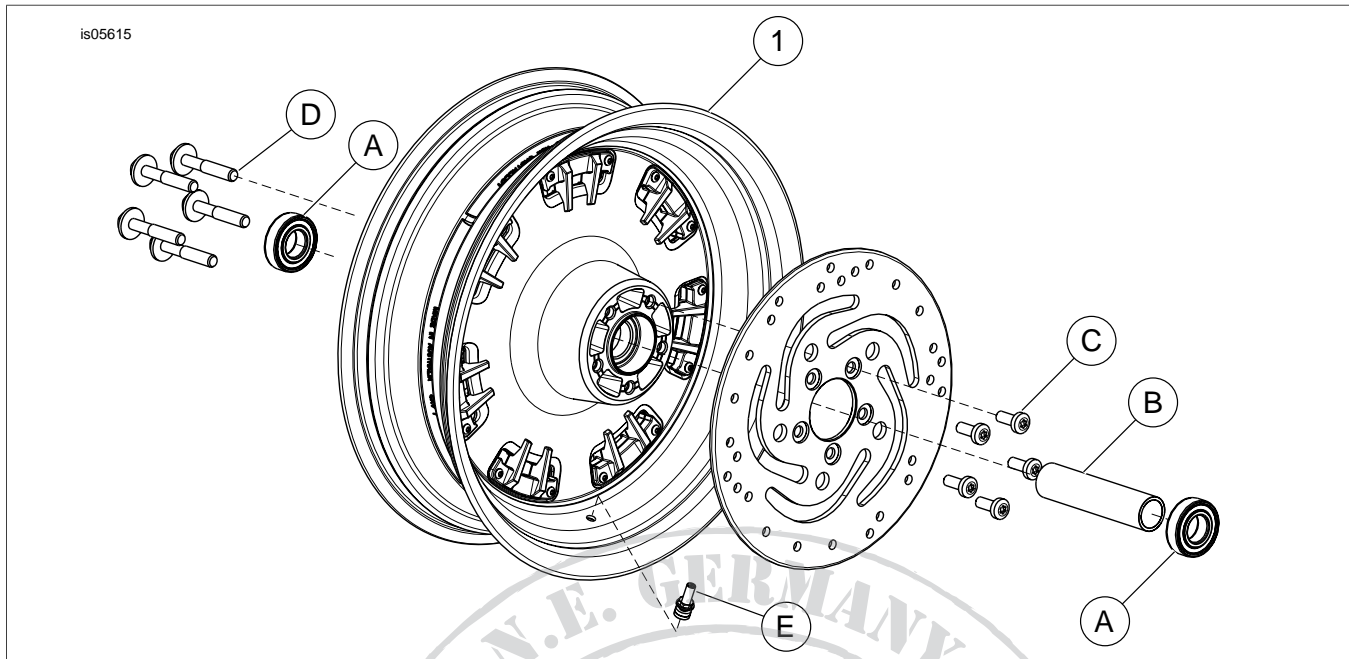

Figure 1. Service Parts: Rear Fang Wheel
2. See Figure 1. Install valve stem assembly (E) on wheel. Refer to service manual.